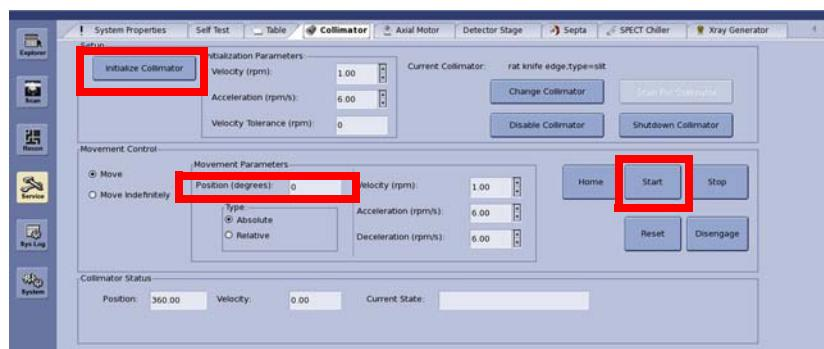

Figure 4-11
7. From the Service page (Figure 4-11), rotate the collimator drive. Verify that it has moved the desired number of degrees. The collimator must rotate clockwise when viewed from the front.